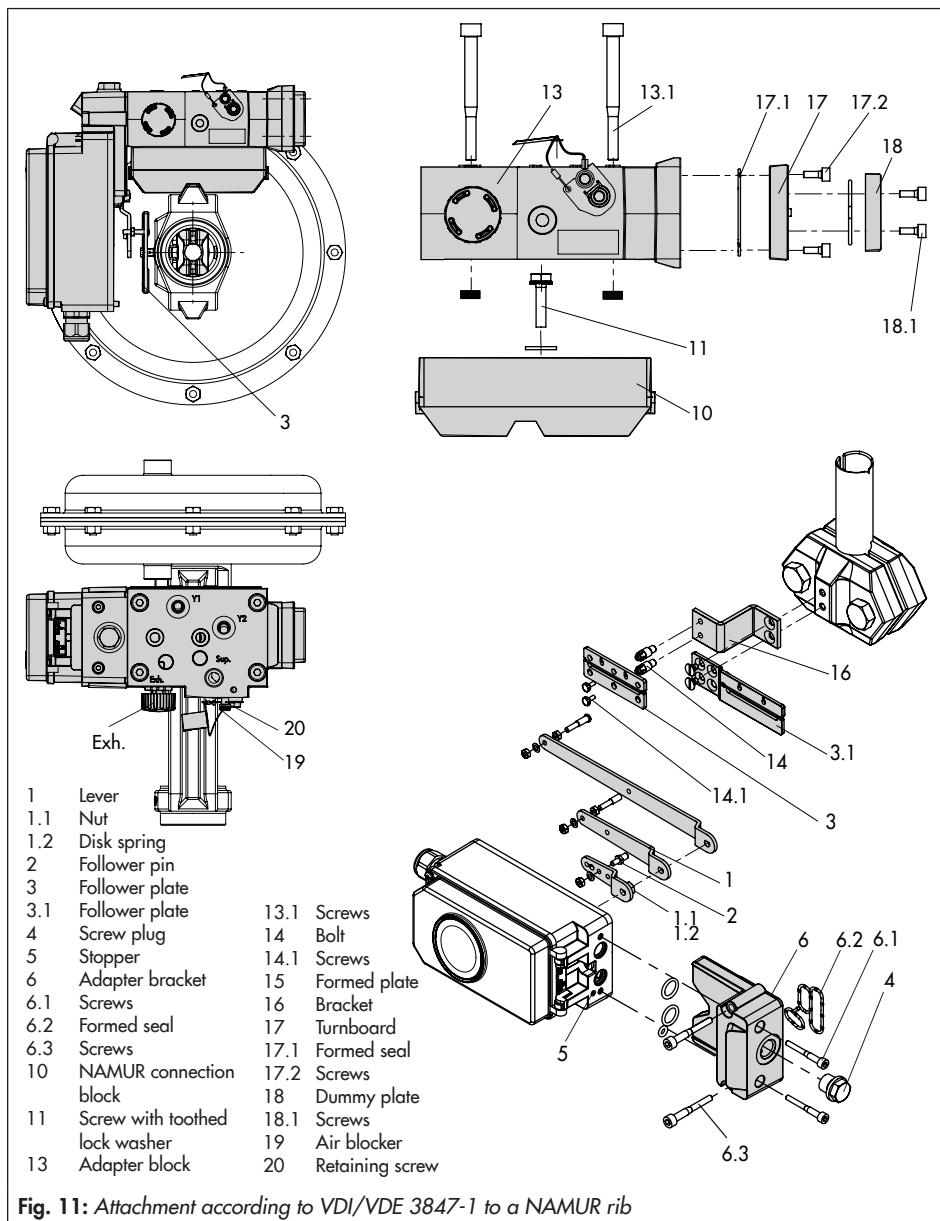

Fig. 11: Attachment according to VDI/VDE 3847-1 to a NAMUR rib
Attachment to NAMUR rib (see Fig. 11)
- 1. Series 240 Valves, actuator size up to 1400-60 cm²:** Screw the two bolts (14) to the bracket of the stem connector or directly to the stem connector (depending on the version), place the follower plate (3) on top and use the screws (14.1) to fasten it.
- Type 3254 Valve, 1400-120 to 2800 cm²:** Screw the two bolts (14) to the bracket (16). Fasten the bracket (16) onto the stem connector, place the follower plate (3) on top and use the screws (14.1) to fasten it.
- Mount the positioner on the NAMUR rib as shown in Fig. 11.
- 2. For attachment to the NAMUR rib,** fasten the NAMUR connection block (10) directly into the existing yoke bore using the screw and toothed lock washer (11). Align the marking on the NAMUR valve connection (on the side marked '1') to 50 % travel.
- For attachment to valves with rod-type yokes using the formed plate (15), which